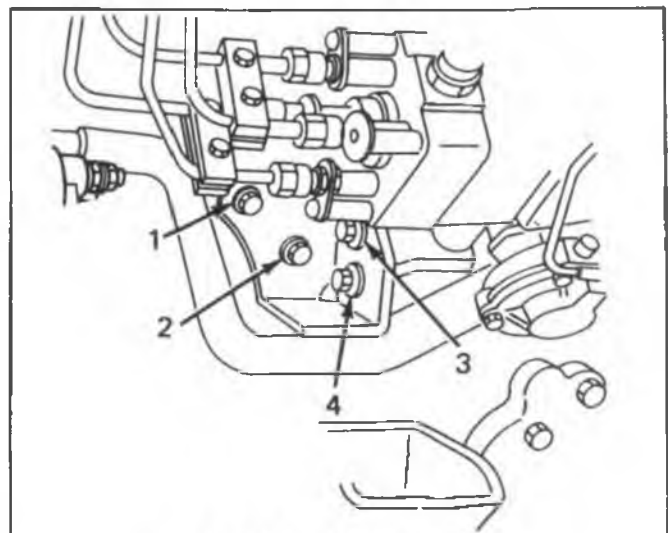

Fig. 4-29 Rear Bracket Bolts
2. Tighten the 4 bolts in sequence as shown in Figure 4-29. No clearance should be provided between the rear bracket and injection pump bracket.